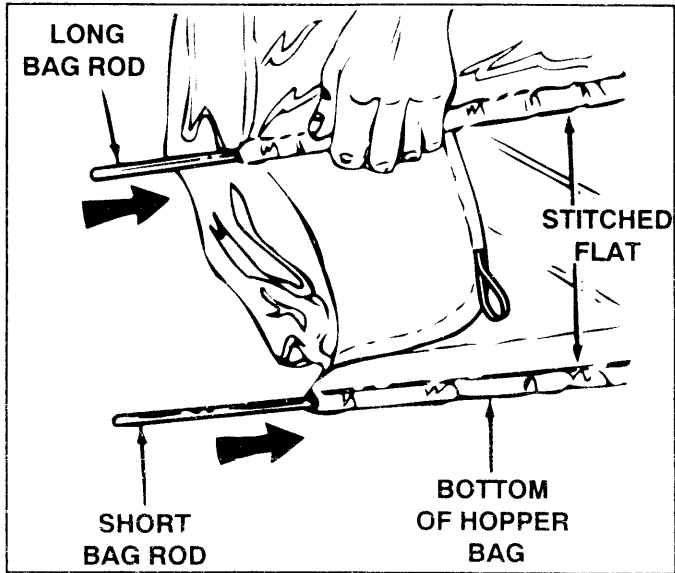

FIGURE 5
- Slide the long bag rod (28-1/2" long) through the stitched bag flap on the top of the hopper bag as shown in figure 5.
- Slide the short bag rod (25-1/2" long) through the stitched bag flap on the bottom of the hopper bag as shown in figure 5.